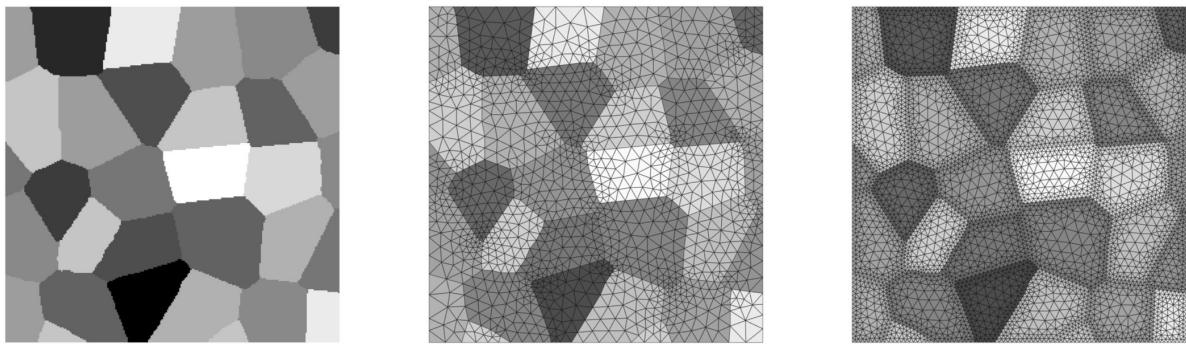

Figure 12: Refine mesh near polygonal boundary
- *Size at Boundary*: Element size at constraint edges (i.e., polygonal boundary). This parameter is introduced by me to refine mesh near polygonal boundary (Figure 12), which maybe useful in some cases. If you don't need to refine mesh near boundary, you can set *Size at Boundary* to 0 or a value  $< 0.05$  or  $\geq 500$ .